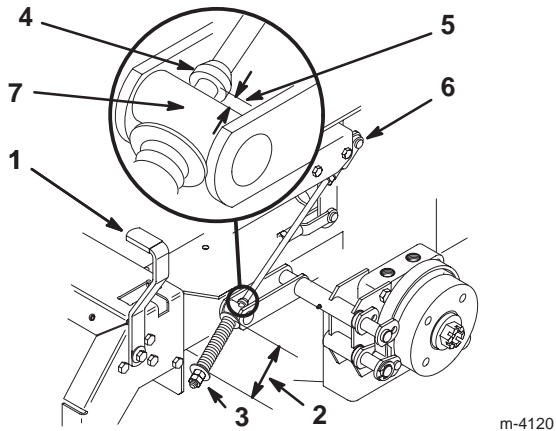

Figure 59
2. Measure the length of the spring; the measurement should be 2-3/4 inch (74 mm) between the washers (Fig. 59).
- A. Loosen the jam nut below the spring and tighten the nut directly below the yoke (Fig. 59).
6. Measure the distance between the trunnion roller and the collar on the brake rod. The measurement should be 3/16 to 1/4 inch (5 to 7 mm) (Fig. 59).
- B. Turn the bottom adjusting nuts until the correct measurement is obtained (Fig. 59).